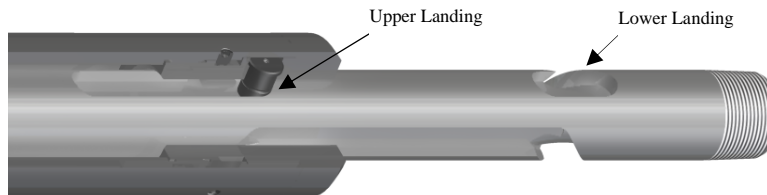

Fig. 7
L-4.32) Rotate and move J-slot mandrel (20) downwards to move J-pins (3) to upper landing in slot on J-slot mandrel (20) (Fig. 7).